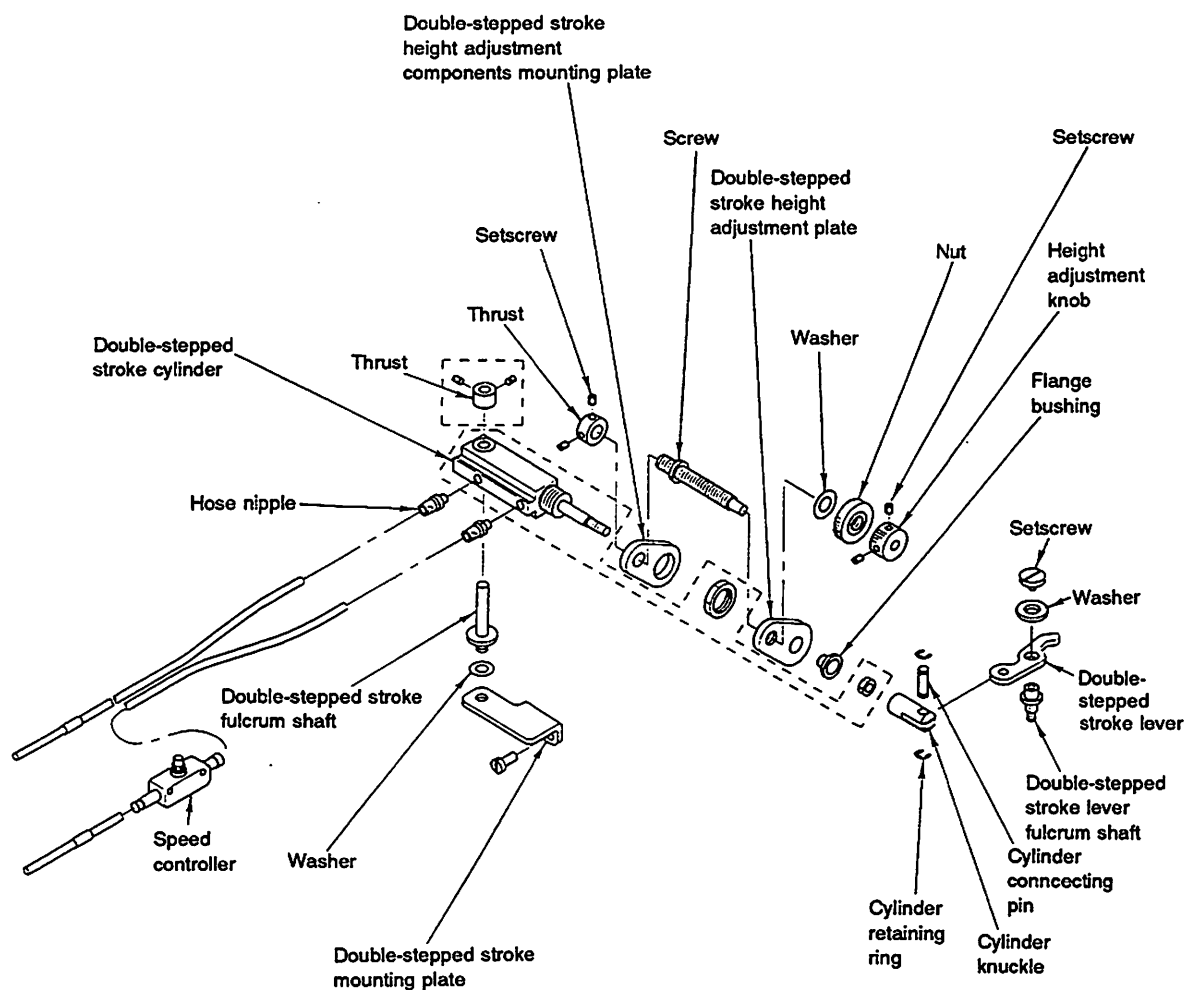

Fig. 4-6-1
- 1) Assemble the double-stepped stroke feeding frame referring to Fig. 4-6-1.